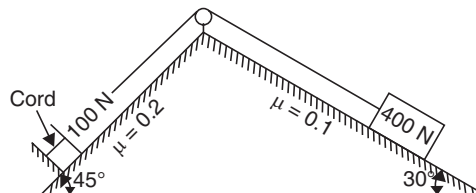

Fig. 6.41
**Example 6.20.** Find the maximum tension in the cord shown in Fig. 6.41 if the bodies have developed full friction.
**Sol.** Fig. 6.41 shows the two blocks connected through a cord.